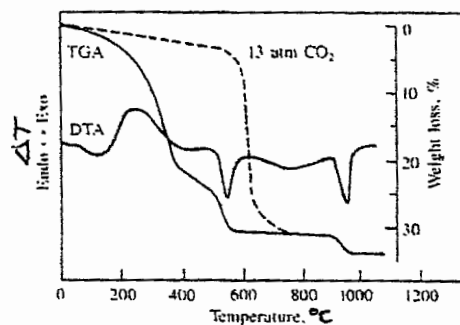

Fig 2.1
- (f) The solid lines in the figure (Fig. 2.1) below depicts the simultaneous DTA and TGA thermograms of manganese hydrogen carbonate in a porous crucible;